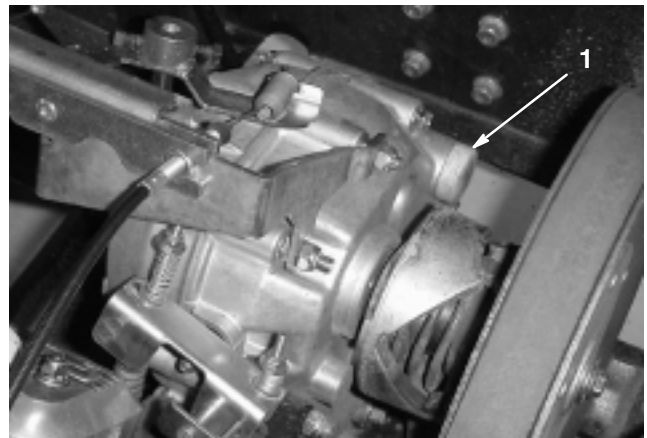

Figure 32
3. Fill the reservoir (Fig. 32) with approximately 1-1/2 qt. (1.4 liters) of 10W30 motor oil or until the oil level is at the bottom of the level indicator hole (Fig. 31).